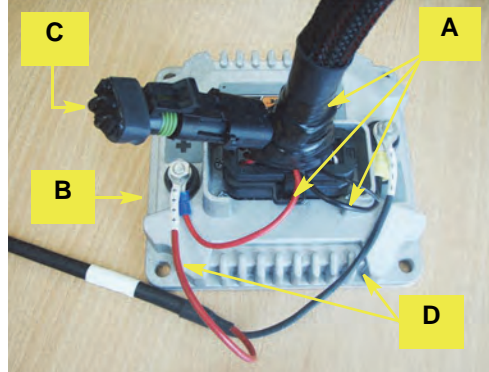

Figure 1a: Connections at AC110
- a. Install the loop back connector (terminator) **C** in the appropriate connector on interface cable **A** then connect **A** (main plug and power connectors) to AC110 **B**, red to + positive, black to - negative (Figure 1a). Do not refit terminal nuts yet.
Connect the non-fused end of power cable **D** to AC110 **B**. Refit the terminal nuts and tighten the power connections (Figure 1a).